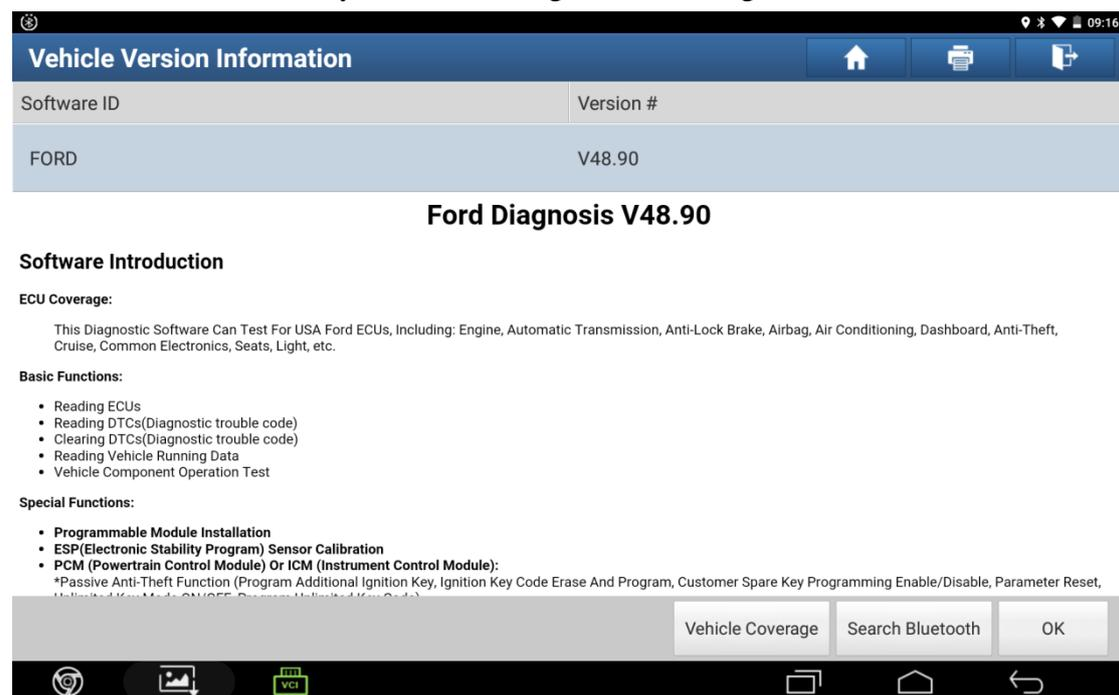
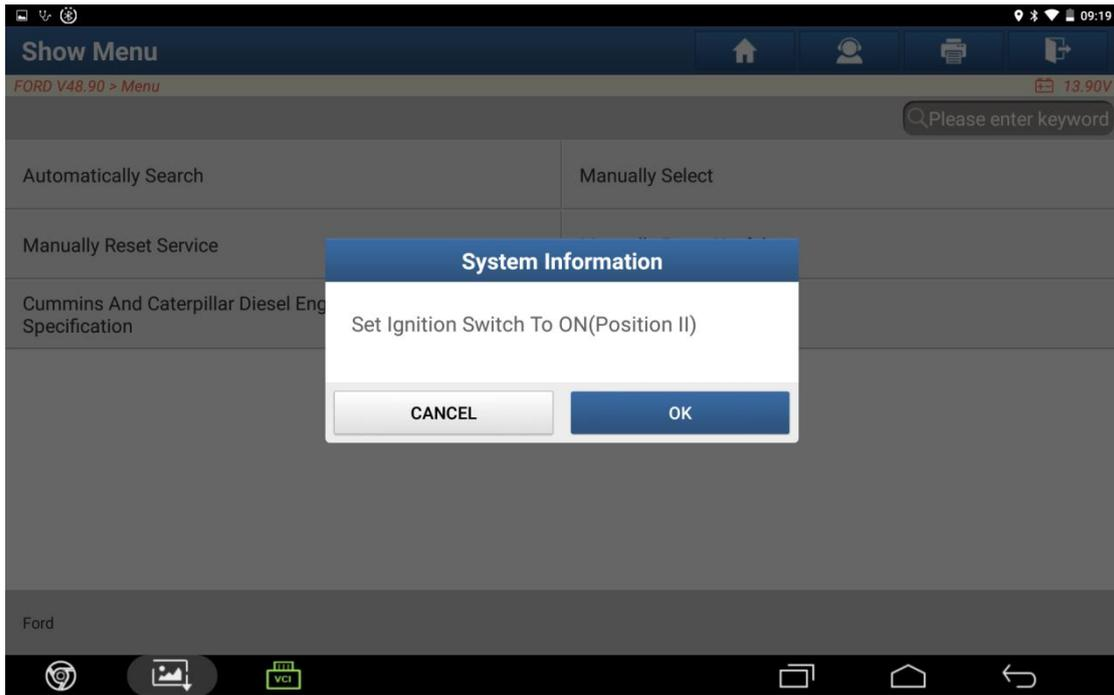

Figure C1
Figure C2
1. Choose Automatically Search. See Figure C1 and Figure C2.